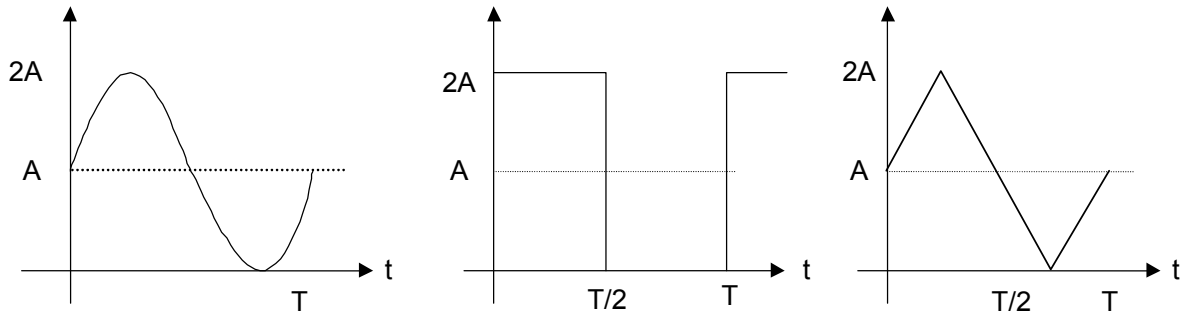

Figure 2
- 2- For the periodic signals shown in Figure 2, find the average value of each signal.
- b) Adjust the D.C. offset of the signal generator, so that the signals start from zero and reach a peak value of 2 V as shown in Figure 2.